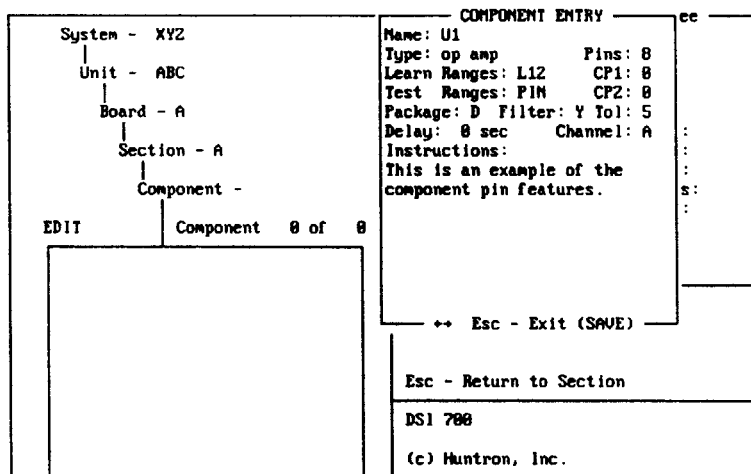

Figure 6-1. Component Entry Pop-up Window.
5. For this example, we will enter an 8 pin IC. Type the following into the component entry window until it matches what is shown in Figure 6-1.